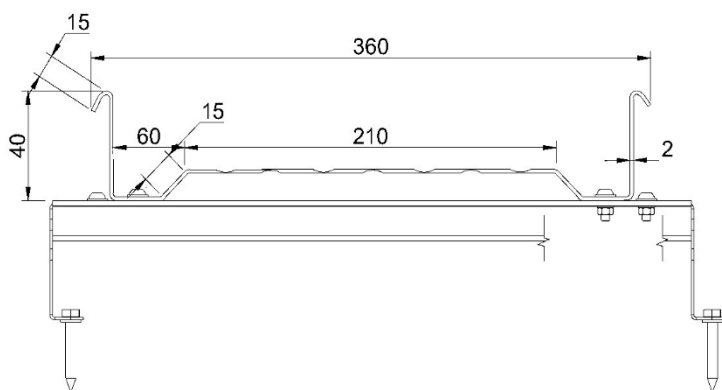

Figure 2.
- Install the ZK- and ZL-bracket plates such that they are in a vertical position (Figure 2).
- Screw the ZK- and ZL-bracket plates together with the roof using M8x60 mm screws (Figures 2 and 3).
- To the ZK- and ZL-bracket plates, attach the C-bracket using two M8x20 screws with an M8 nut and M8 washer (Figure 2).
- Fasten the roof footbridge to the C-bracket using two M10x20 screws and an M10 nut and M10 washer (Figures 2 and 3).